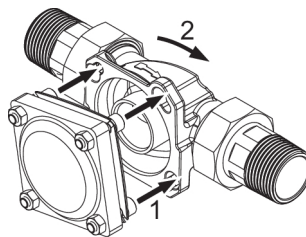
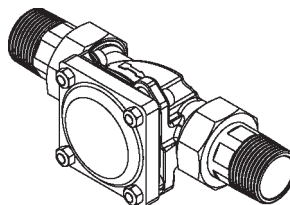

Fig. 11: Place and engage
Fig. 12: Connection engaged
1. Insert the heads of the four flange screws of the water meter through the bayonet holes on the rotary flange fitting (see Figure 11).
2. Turn the water meter in a clockwise direction up to the stop (see Figure 11 and Figure 12).